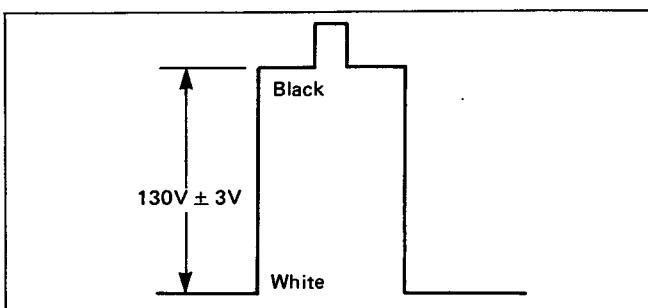

Fig. 26
- 6) Adjust G-Drive control VR (R1801) to achieve $130V \pm 3V$ as shown in Fig. 26.